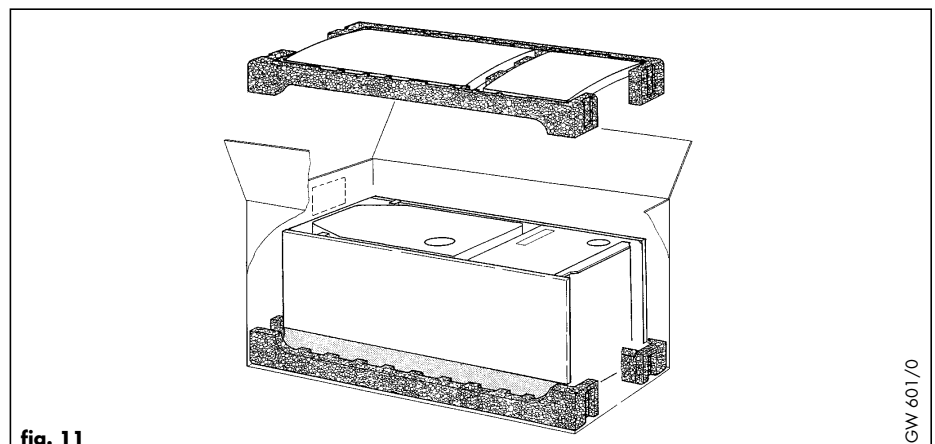

fig. 11
4.2.2 Unpack the boiler (fig. 11)